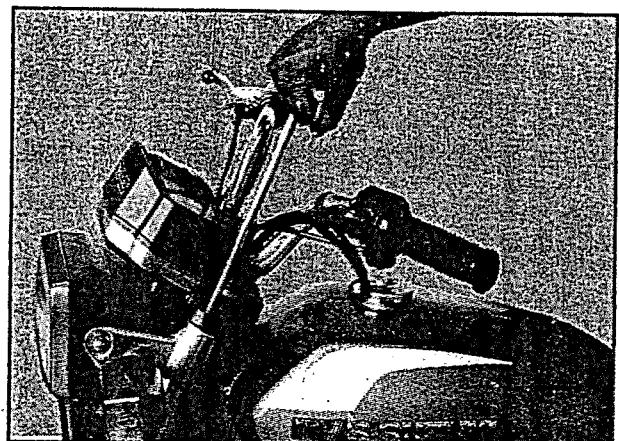

Fig 6.36
- After pulling the inner tube by using the special tool (fig 6.36), tighten the front fork lower bracket bolt temporarily (Only for STD model and R model forks).